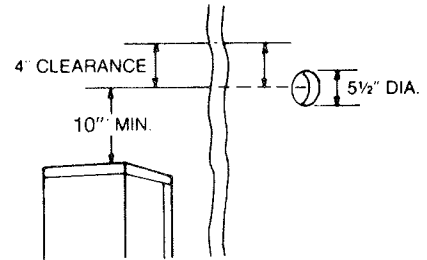

Fig. 5F
- C. Check to be sure center line of the vent opening in the exterior wall is at least 10" from the top of the unit jacket. Check to be sure there is at least 4" of clearance above the center line of the vent opening in the exterior wall at the unit location (Figure 5F).